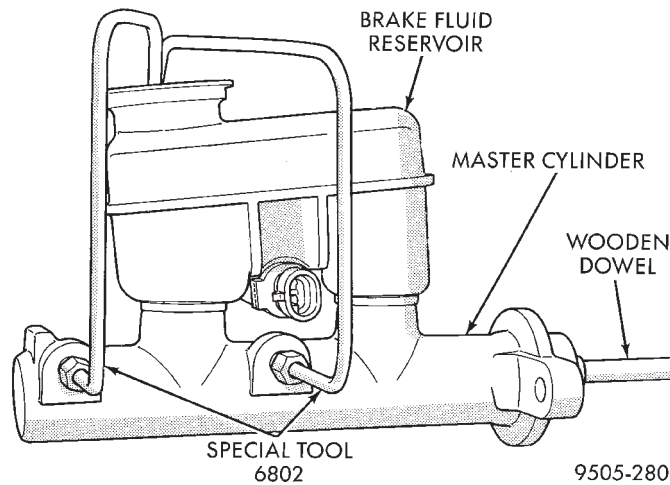

Fig. 49 Bleeding Master Cylinder
(2) Fill brake fluid reservoir with brake fluid conforming to DOT 3 specifications such as Mopar or an Equivalent.
(3) Using a wooden dowel per (Fig. 49), depress push rod slowly, and then allow pistons to return to released position. Continue to repeat this step several times after no more air bubbles are expelled from bleed tubes to ensure all air is bled from master cylinder.
(4) Remove bleeding tubes from master cylinder outlet ports, plug outlet ports and install fill cap on reservoir.
(5) Remove master cylinder from vise.